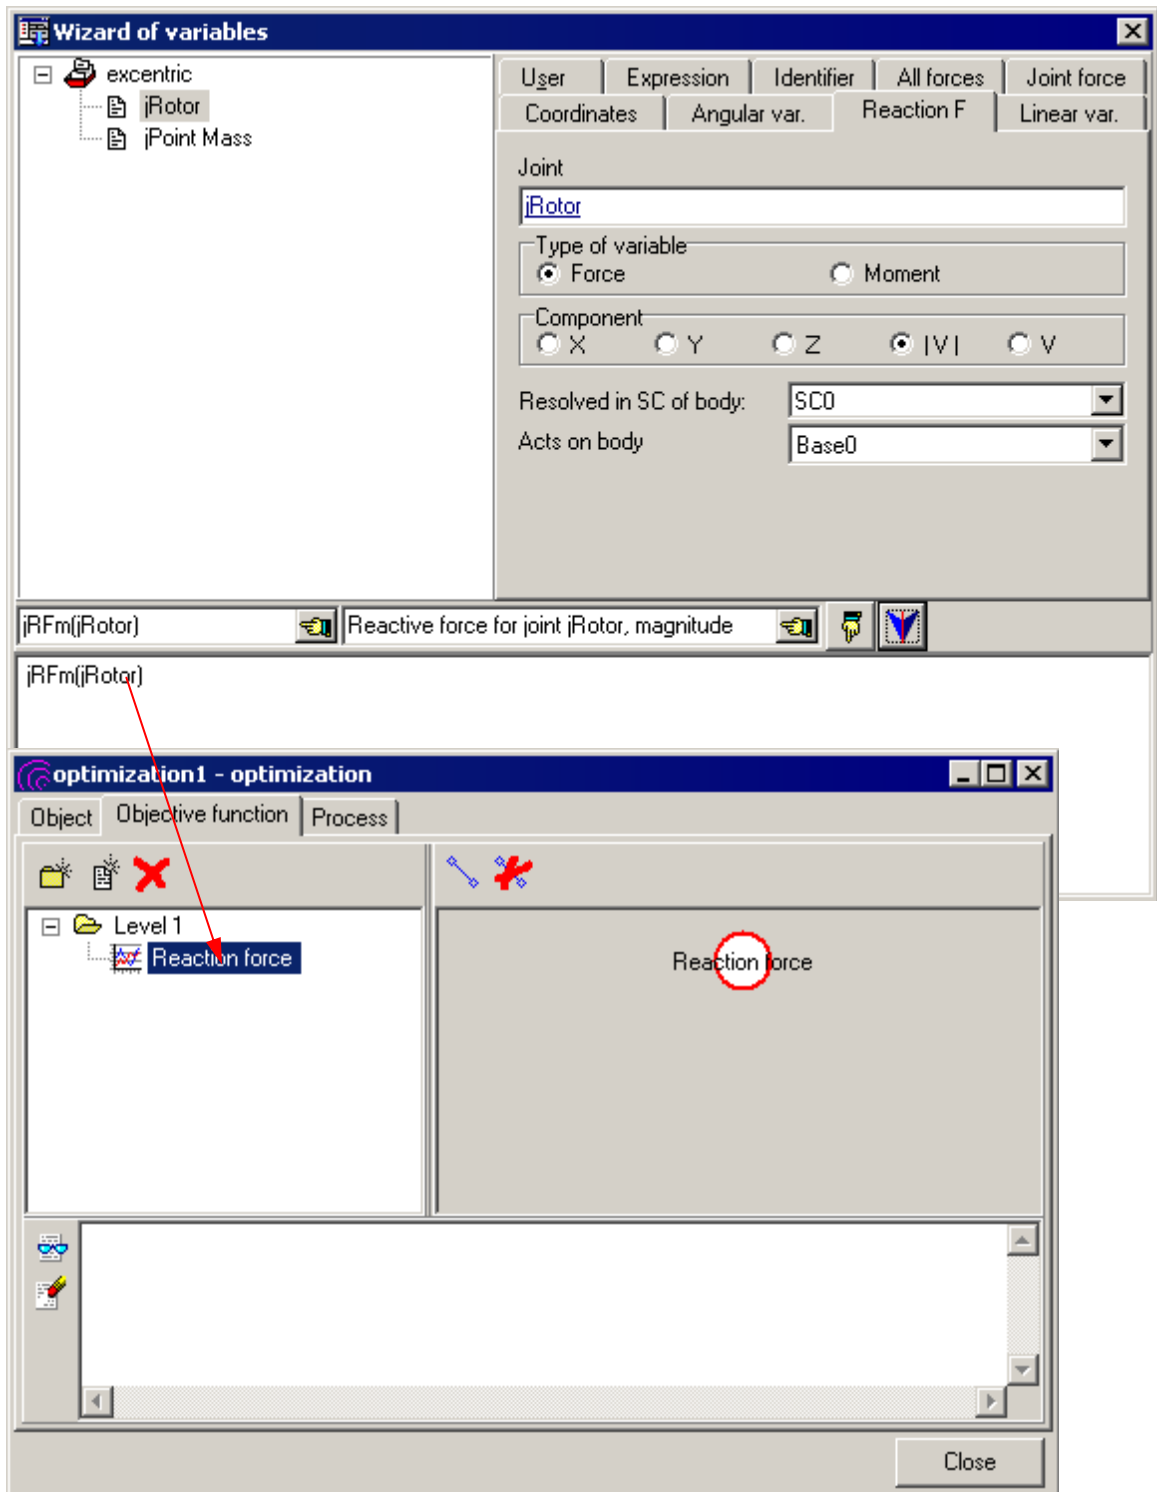

Figure 5.13. Assigning variable
4. Open **Wizard of variables** and create the variable for the reaction force and drag it to the **Reaction force** criterion, see Fig. 5.13.